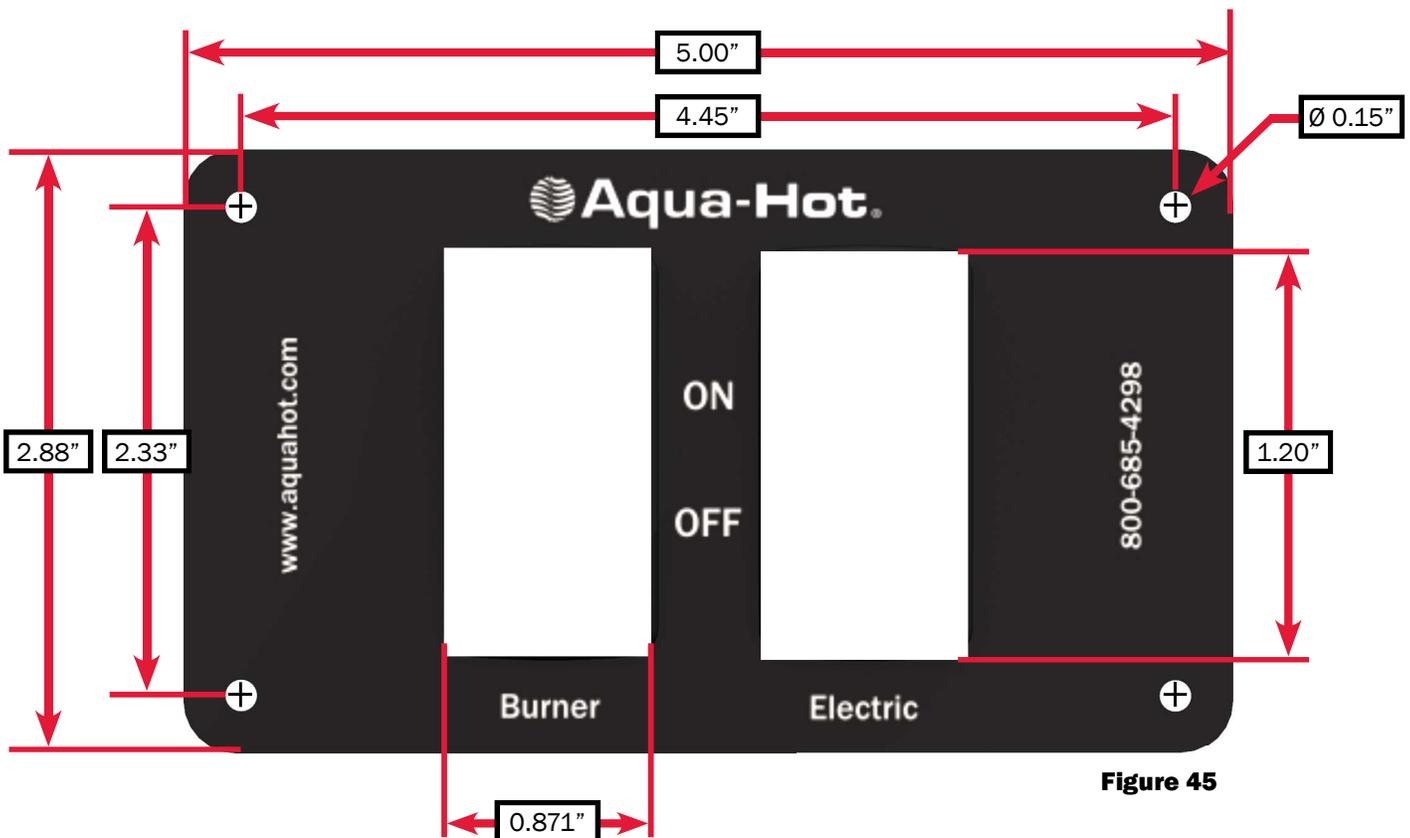

Figure 45
1. Cut out a 3.75” W x 1.25” H opening for the switch panel plate. Reference Figure 45.